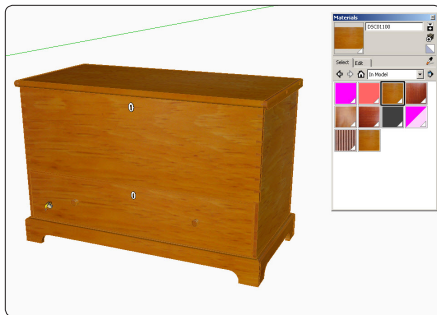

Figure 16. The blanket chest, with each component painted with the newly imported texture.
Step 6 The imported texture will appear as a paint chip in the Materials dialog box. Delete the rectangle face. Open the Materials dialog box and click on the pine-grain texture chip just created. The cursor changes to the Paint Bucket Tool. Use it to click on the various components in the model. The texture will cover all the faces of each component. Note that the horizontal grain of the texture works well for this blanket chest, and no editing or rotation is required (Figure 16).